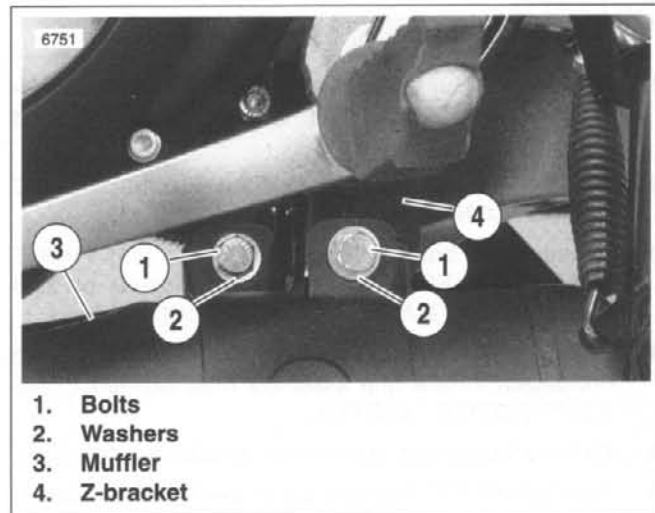

Figure 2-139. Rear Muffler Mounts
2. See Figure 2-139. Remove bolts (1) and washers (2) securing muffler (3) to Z-bracket (4).
6. See Figure 2-139. Position muffler and install rear mounting support and weldnuts in rear muffler straps with two sets of bolts (1) and washers (2). Tighten to 17-19 ft-lbs (23-25.8 Nm).